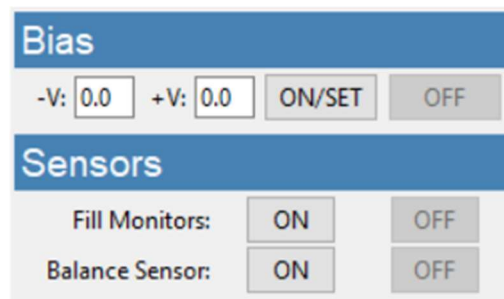

Figure 10. Bias and Sensors frames.
- Negative and positive voltage bias can be changed by entering values (-6.0 V to +6.0 V) in their corresponding boxes (see Figure 10). Click “ON/SET” to apply the setting. Check the bias slider to ensure balance.